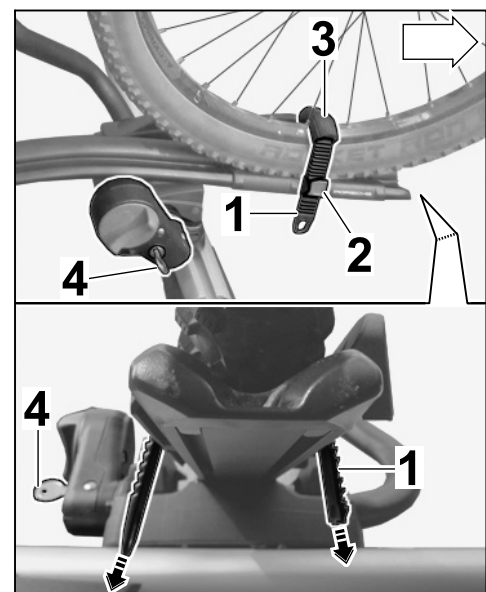

Figure 16
5.2.6 Guide tension strap between the spokes over the wheel rim. Centre the rim protector over the wheel rim ( $\Rightarrow$  *Figure 16 -top-*).
5.2.7 Insert tension strap into the turnbuckle. Tighten tension strap on both sides in such a way ( $\Rightarrow$  *Figure 16 -arrows-*) that the tension strap secures the wheel symmetrically ( $\Rightarrow$  *Figure 16 -bottom-*).
5.2.9 Close the lock on the rotary knob ( $\Rightarrow$  *Figure 16 -4-*). The frame holder (claw) can no longer be opened.